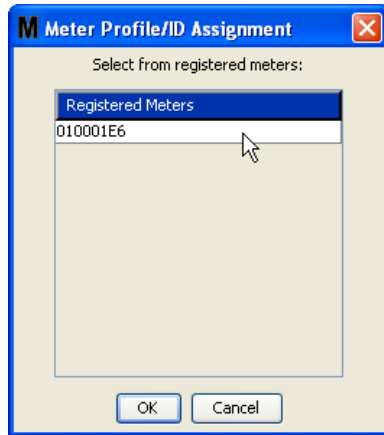

FIG. 88
- **LINK/UNLINK button** - When all parameters on the Meter Profile screen have been completed, click the Link button to display the Meter Profile/ID Assignment screen shown in FIG. 88. From the list of registered Meters, select a meter to associate the profile to from the list. Click OK to close the screen and save the changes.